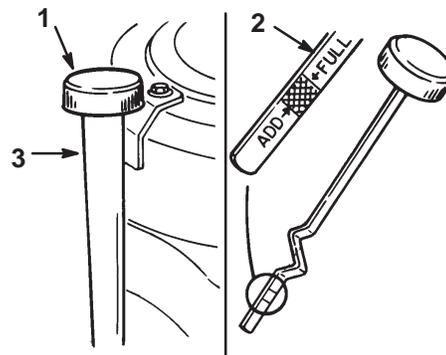

Figure 20
3. Clean around the oil dipstick (Fig. 20) so dirt cannot fall into the filler hole and damage the engine.
4. Unscrew the oil dipstick and wipe the metal end clean (Fig. 20).
5. Slide the oil dipstick fully into the filler tube do not thread onto tube (Fig. 20). Pull the dipstick out and look at the metal end. If oil level is low, slowly pour only enough oil into the filler tube to raise the level to the “FULL” mark.
7. Slowly pour approximately 80% of the specified amount of oil into the filler tube (Fig. 20). Now check the oil level; refer to Checking Oil Level, page 24. Slowly add additional oil to bring to "FULL" mark on dipstick.